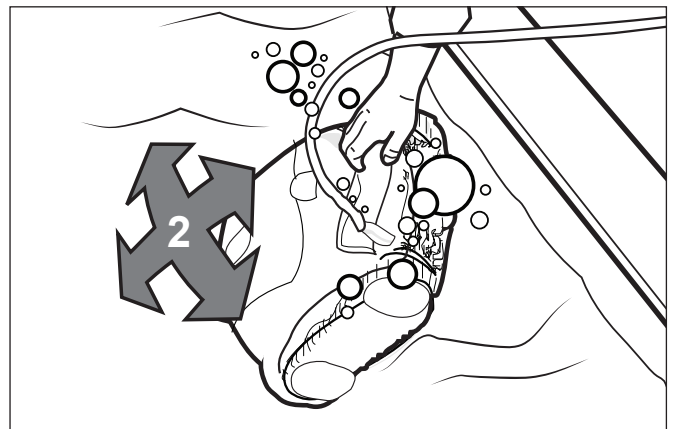

Figure 4. Cleaner Sinking to the Bottom of the Pool
3. Ensure the unit sinks to the bottom of the pool and does not float (Figure 4).